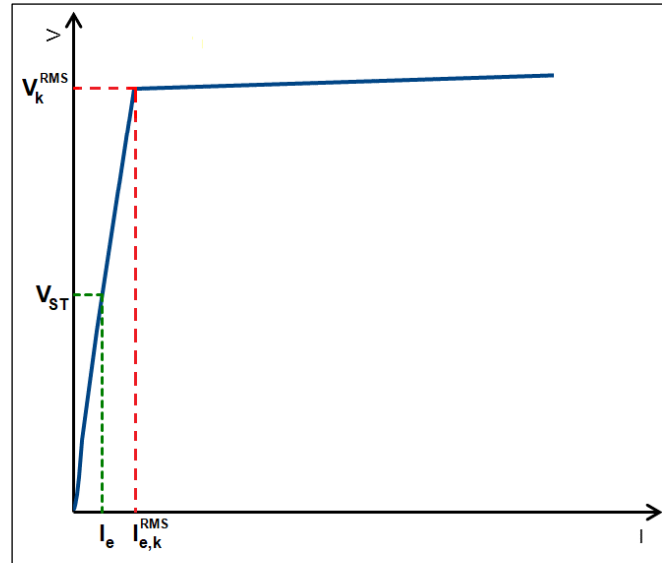

Figure 2-1 CT exciting peak current at  $V_{ST}$
- $I_e$  = current transformer exciting peak current at  $V_{ST}$  (see on Figure 2-1). In the calculations the exciting peak current is:  $I_e = V_{ST} \cdot \frac{I_{e,k}^{RMS}}{V_k^{RMS}}$ , where  $I_{e,k}^{RMS}$  is the exciting current at rated CT knee point voltage ( $V_k^{RMS}$ )
It is assumed that the excitation curve is linear between zero and CT knee point voltage (Figure 2-1). So the current error is also linear below the knee point voltage. The missing exciting current can be estimated by: